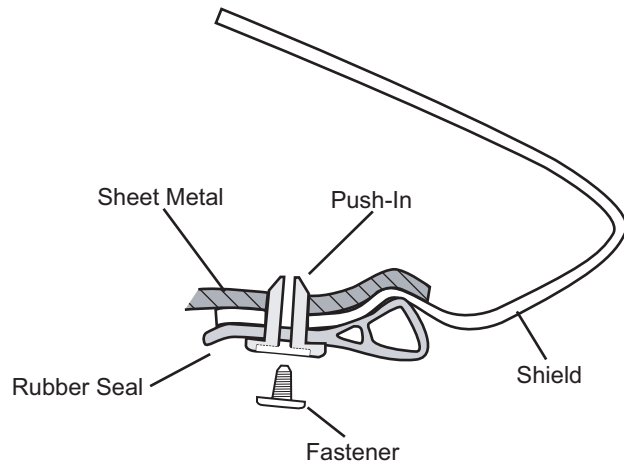

Fig.4
6. Insert the Nylon Push-In using your fingers, through the shield, the hood, and the gasket. (Fig.4)